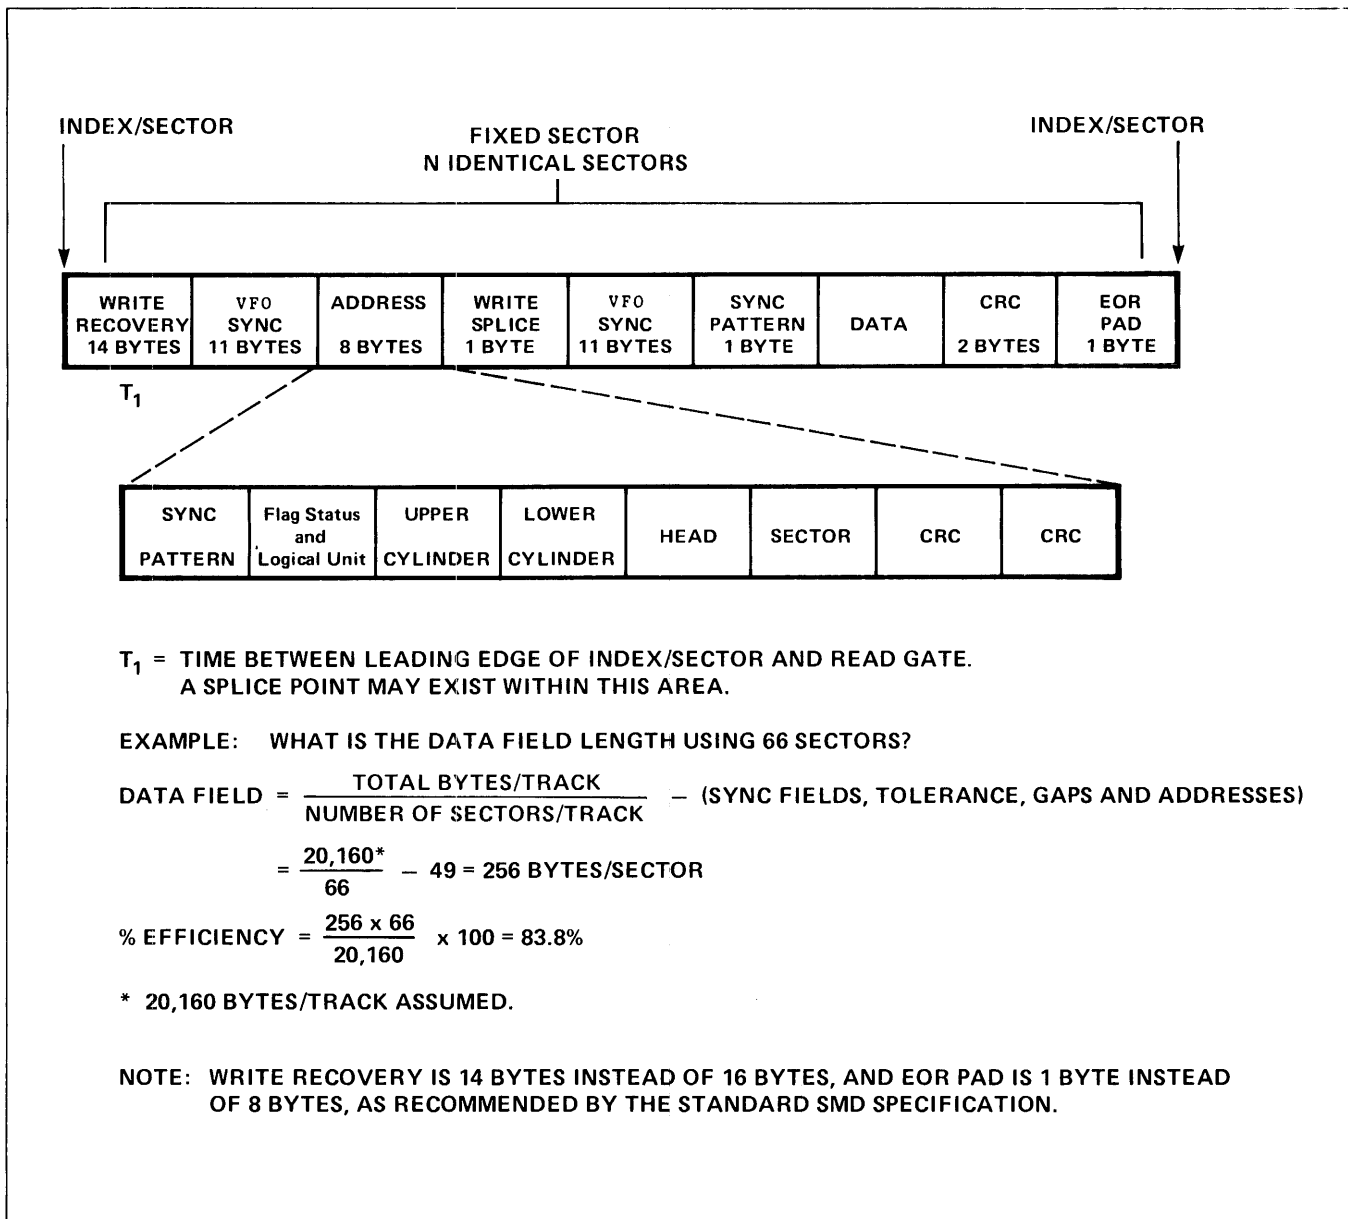

Figure 5-18. Recommended Sector Format
- 5.8. System Grounding.** PRIAM recommends an AC grounding scheme as shown in Figure 5-18.